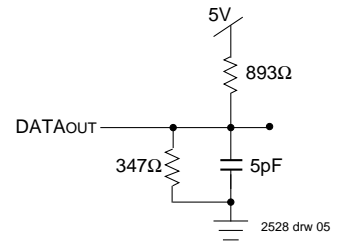

Figure 2. Output Test Load (for t_{HZ} , t_{WZ} , and t_{OW}) Including scope and jig.
1. Transition is measured ±200mV from Low or High-impedance voltage with Output Test Load (Figure 2).
4. Transition is measured $\pm 200mV$ from the Low or High-impedance voltage with the Output Test Load (Figure 2).